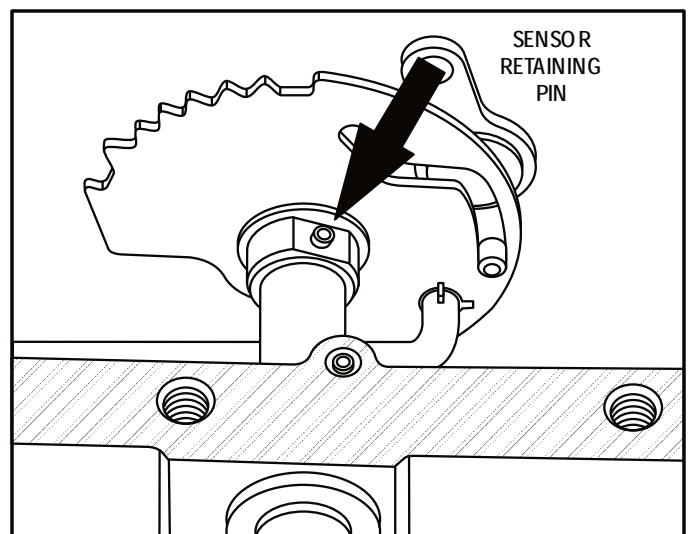

Figure 59
14. Rotate the shift lever to align with hole in the range sensor and install new sensor retaining pin, as shown in Figure 59.